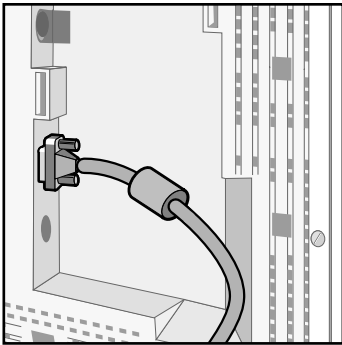
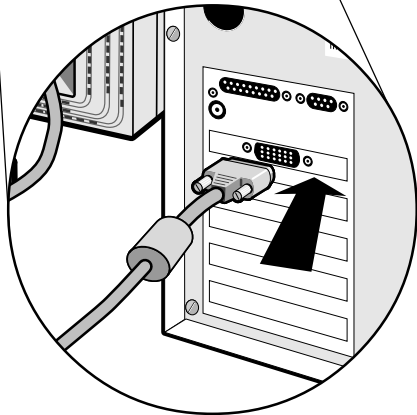
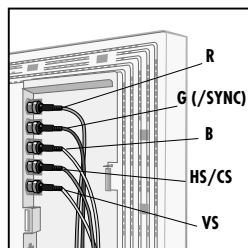

Figure A.1
Figure A.2
Figure C.1
2. For the PC: Connect one end of the video signal cable to the back of the monitor (Figure A.1) and the other end to the connector of the display card in your system (Figure A.2). Tighten all screws.
3. Connect the BNC cable to the appropriate connectors on the back of the monitor. Connect the red BNC cable to the BNC connector on the monitor labeled R, the green BNC cable to the BNC connector labeled G (/SYNC), the blue BNC cable to the BNC connector labeled B. If you require a fourth BNC connector (Composite Sync), connect it to the BNC connector on the monitor labeled HS/CS. If you require a fifth BNC connector (Vertical Sync), connect it to the BNC connector on the monitor labeled VS (Figure C.1). Connect the other end to the computer. For a PC refer to (Figure A.2). For a Macintosh refer to (Figure B.2).